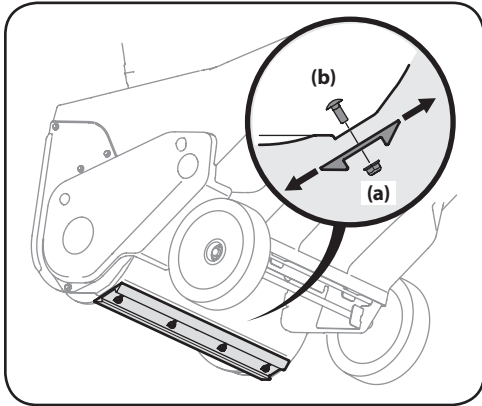

Figure 4-2
3. Loosen the four flange lock nuts (a) and carriage screws (b) which secure the shave plate to the housing. See Figure 4-2. Move the shave plate to the desired position and retighten the flange lock nuts (a) and carriage screws (b) securely.
4. Remove the four carriage screws (b) and flange lock nuts (a) which attach it to the snow blower housing. See Figure 4-2.